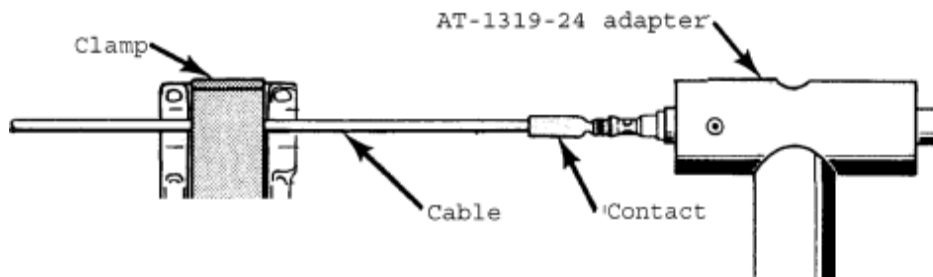
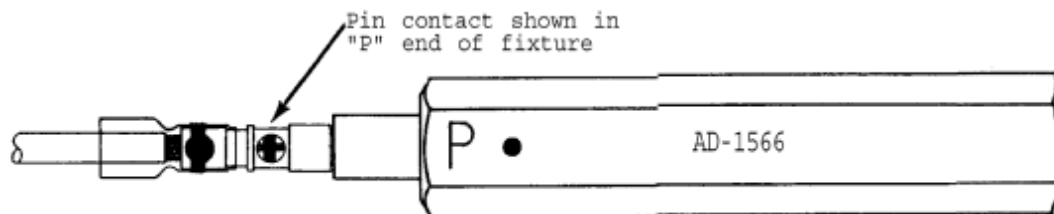

Figure 6-3. Contact Inserted into AT-1319-24 Adapter
Figure 6-4. Contact Inserted into AD-1566 Repair Holding Fixture
1. Insert the contact/cable assembly into the appropriate end of the adapter (Figure 6-3) or repair holding fixture (Figure 6-4).